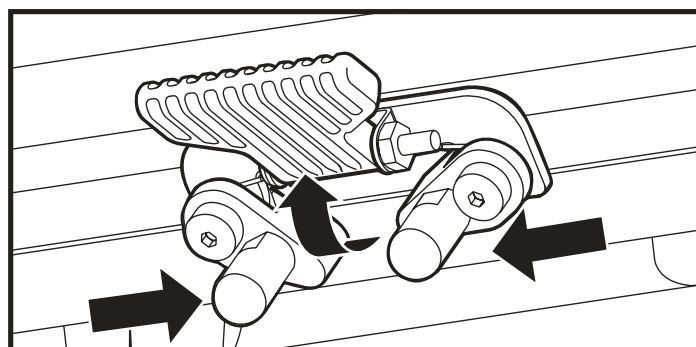

Figure 12. Seat Height Adjustment - Seat Latch Safety
4. Flip up the seat latch safety. See figure 12.
5. Squeeze the seat latch and release the seat from the front trapeze bar. See figure 12.